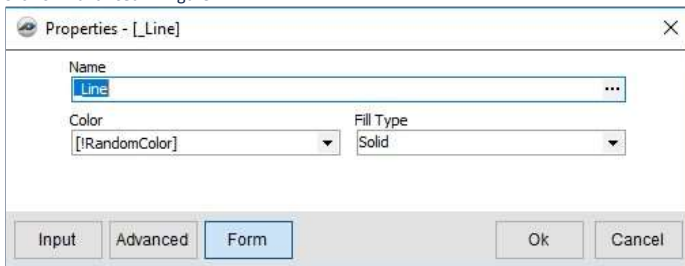

Figure 11
11. Click on **Advanced** in Figure 11.